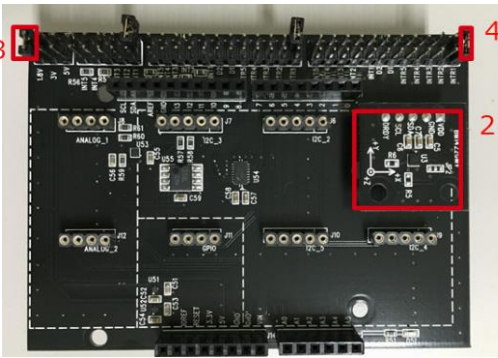

Figure 3. Connection between BM1422AGMV-EVK-001 and the SensorShield
2. Connect BM1422AGMV-EVK-001 to the socket of I2C_1 on the SensorShield (Figure 3)
3. Set Voltage of the SensorShield to 1.8V or 3.0V (Figure 3)
4. Set Interrupt of the SensorShield to INTR1 (Figure 3)